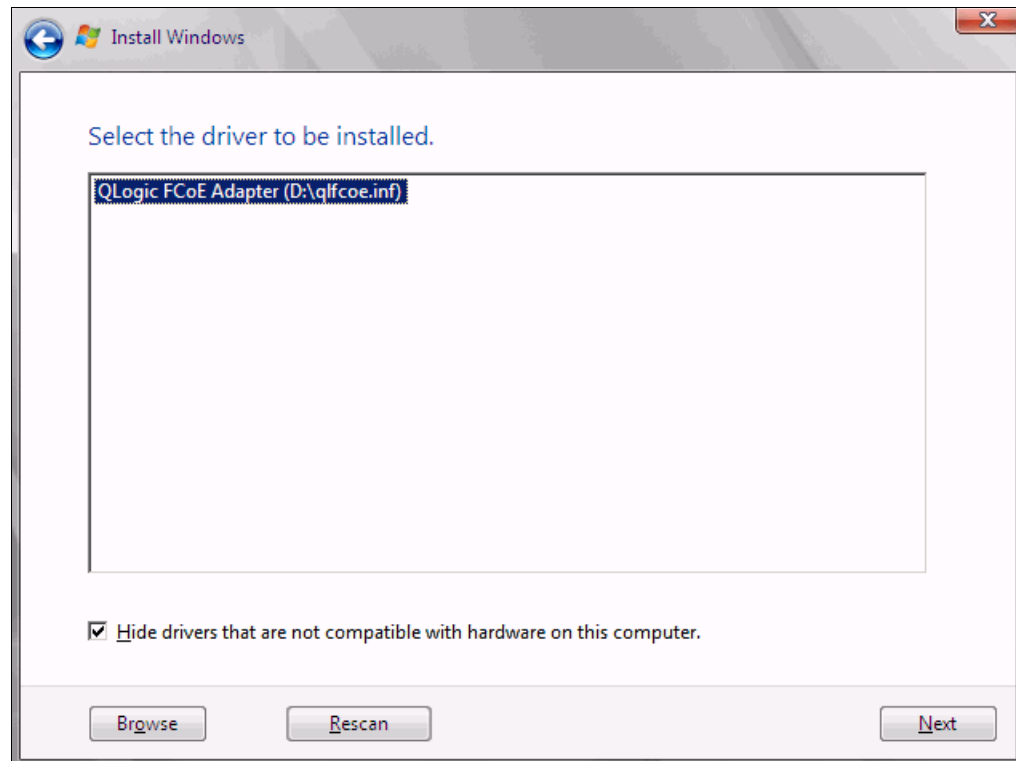

Figure 9-182 Browsing to the QLogic FCoE driver
17. In the “Select the driver to be installed” panel (Figure 9-182), select the driver, and then click **Next**.